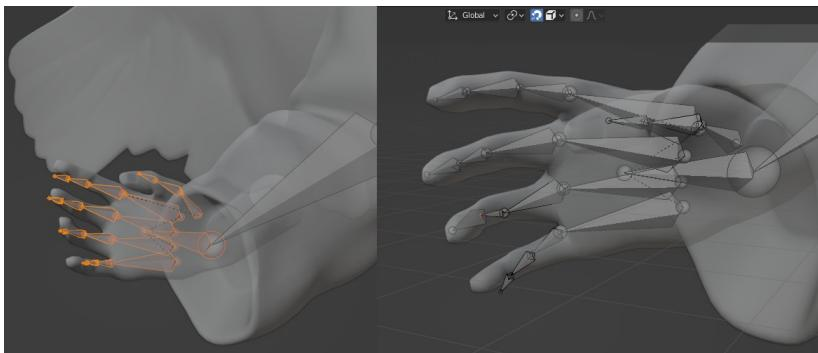

Figure 12-3 Positioning the Bones of an Armature
wrist is nearly in the right place, and finally select just the hand to rotate the wrist to match the angel's hand. Obviously you need to move the view position around to help with this but you will also benefit from switching between normal rotation, in the plane of the screen, and track-ball rotation using shortcut R twice. On the left of Figure 12-3 you can see the final positioning of the right hand using this technique.
6. You should be able to get the feet lined up by selecting the three bones involved and rotating and moving them as described above. To position the knees you need to select just the ball representing the joint between the femur and the shin bone which can be moved without disturbing the position of the ankle or hip joints. On the right side of Figure 12-3 I have selected the first joint from the tip of the right ring finger. However notice too, at the top of the image, that I have switched snapping on and set the type of snapping to *Volume*, this is crucial for rigging animals. The other setting you may find helpful is to change the selection mode to Tweak, the shortcut for quickly changing from one selection mode to another is W. You should now find the rigging of all the finger bones really quite easy. When